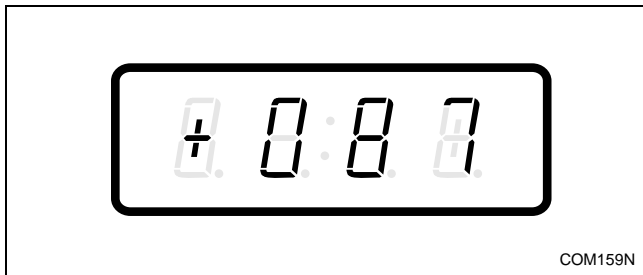

Figure 127
3. Press the DELICATES (+) or the COLD (-) keypad to scroll through the programmable options until “+087” appears in the VFD. Refer to *Figure 127*.